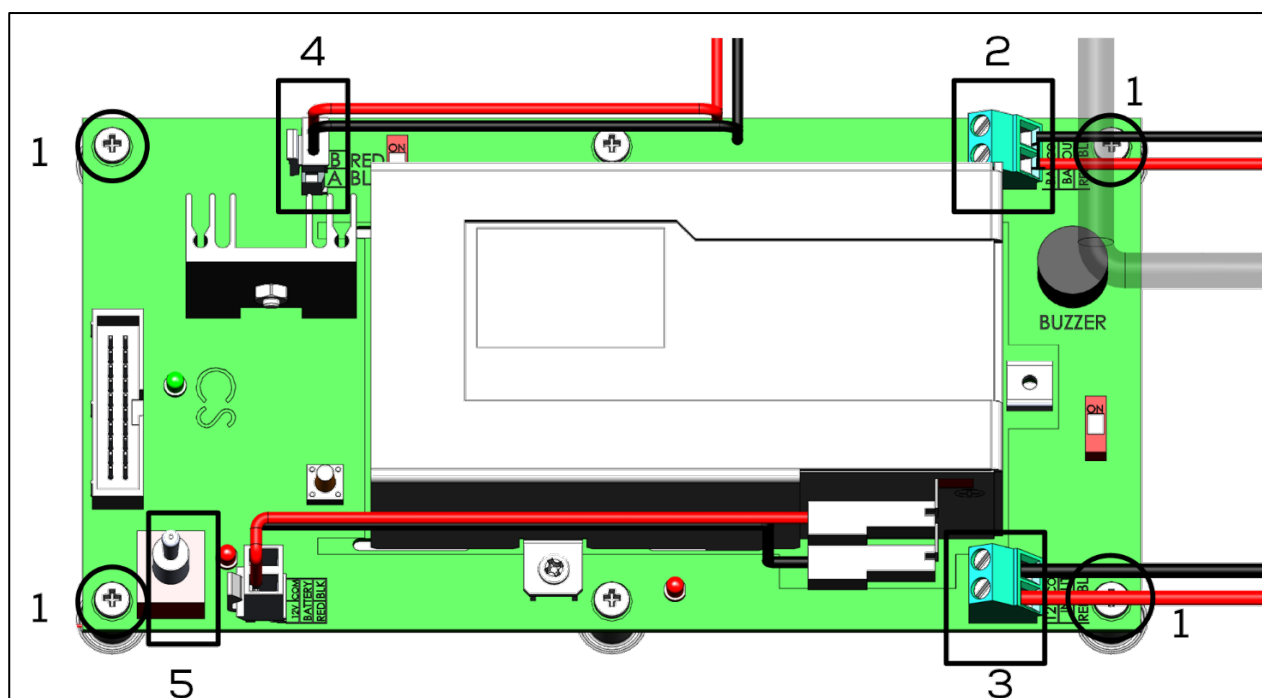

Figure 52: Trio Alarm Battery Installation, Expanded
- If the battery is ordered as an upgrade, install the unit as shown in Figure 52.
CAUTION Turn off the alarm battery before restarting the Trio. Switch the toggle switch to off. See Figure 52.